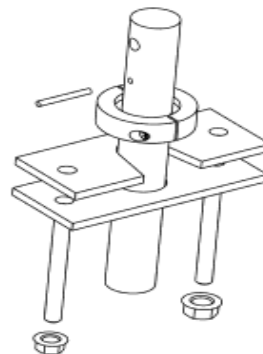

Figure 4-1. Lift Kit
1. Slide the shaft collar (5) back and push the drive pin (6) from between the gear motor (1) and drive shaft (7). The drive shaft may slip down some – it is being held by shaft collar (14). It will be raised by the drive shaft lift kit (included). Disconnect the hex screws holding the gear motor to the drive adapter (2) and remove the gear motor.
2. Remove the hex cap screws holding the seal housing (16) to the seal adapter plate (8). Carefully slide the seal housing up and off the drive shaft, being careful not to damage the seal faces.
3. Remove the stationary portion of the seal from the seal housing. Remove the O-ring (10) from the seal housing.
6. Place the O-ring (10) over the end of the seal housing and slide the seal housing back over the drive shaft. Be careful not to damage the faces when dropping the seal housing onto the seal adapter plate. Insert the hex cap screws to secure the seal housing to the seal adapter plate – do not completely tighten at this time.
10. Lift kit use – refer to Figure 4-1 below. Insert both lift plates vertically through the drive adapter with the open section towards the seal housing. Flip the open side of each plate toward the drive shaft. The two plates should form a rectangle that now surrounds the drive shaft. For now, allow the two plates to rest between the shaft collar and the seal housing.